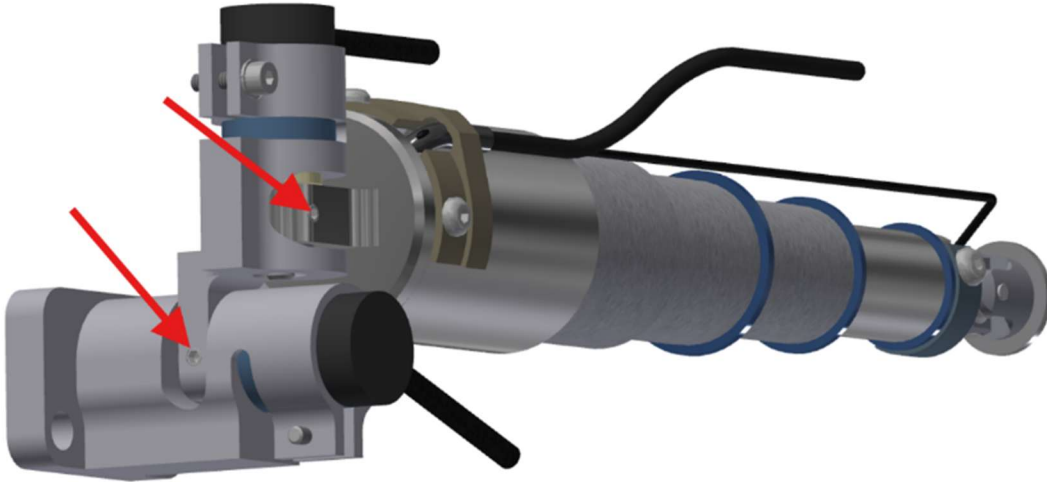

Figure 5-28. Loosen the potentiometer shaft set screws
- 5.2.23 Begin disassembly of the Lower IR-TRACCs (474-3570-A and 474-3580-A) by loosening the two M2.5 X 0.45 X 3 LG. SSSCP Nylock potentiometer shaft set screws. (Figure 5-28).